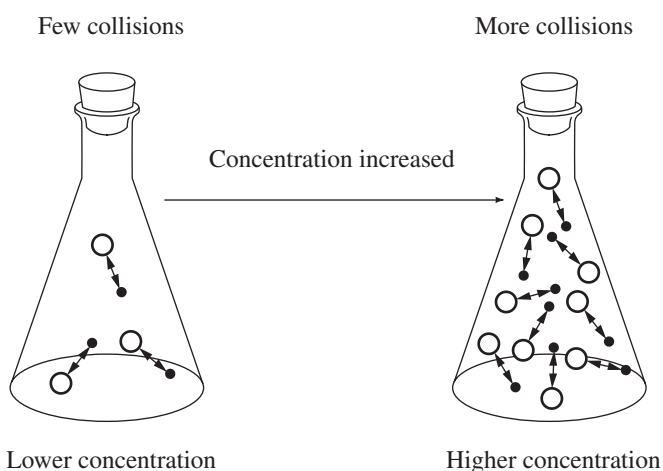

Figure 16.2
- 2. Concentration.** In most reactions, the rate increases when the concentration of either or both reactants is increased. This is understandable on the basis of the collision theory. If we double the concentration of one reactant, it will collide in each second twice as many times with the second reactant as before. Because the rate of reaction depends on the number of effective collisions per second, the rate is doubled (Figure 16.2).